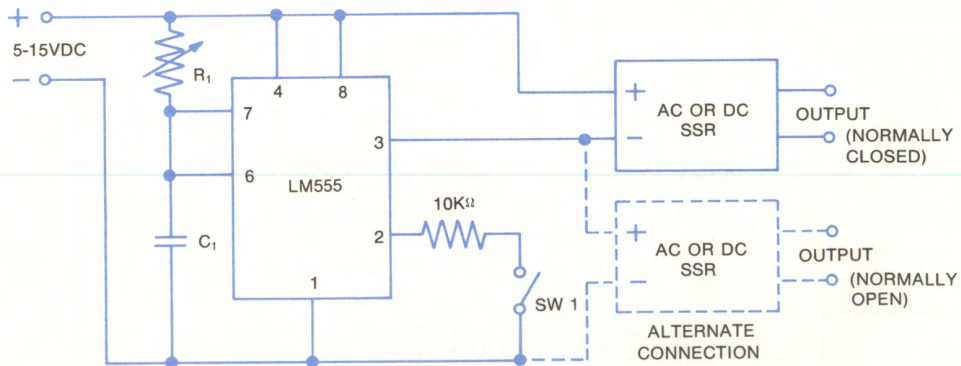

Fig. 2-28 Time delay driver for SSRs.
2.6.14 Time Delay Driver for SSRs (Fig. 2-28)